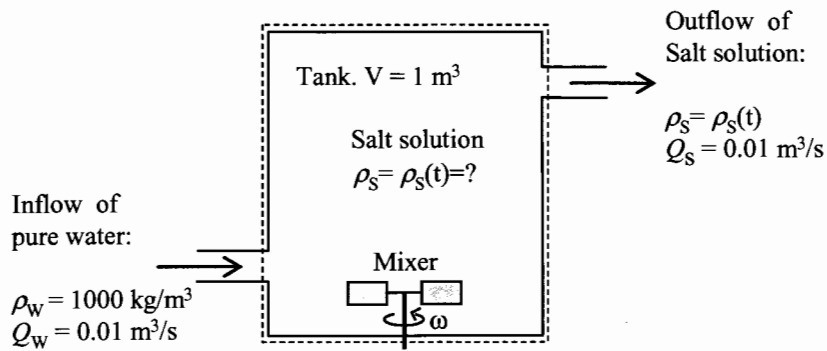

Figure 2
3. A closed tank of volume  $V = 1 \text{ m}^3$  is filled with salt solution with initial density  $\rho_{S0} = 1100 \text{ kg/m}^3$ . Pure water of density  $\rho_w = 1000 \text{ kg/m}^3$  flows in the tank and salt solution flows out of the tank at volumetric flow rate  $Q = 0.01 \text{ m}^3/\text{s}$  (see Figure 2).